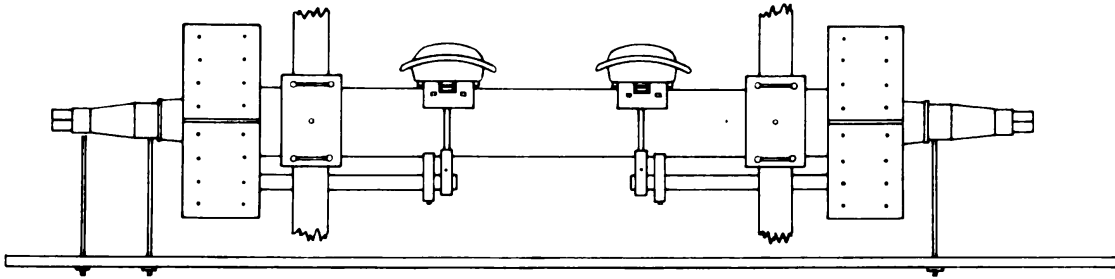

Figure 16—Checking Front Axle for Bend
6. Hold the single-pronged end of the gauge firmly against the inner bearing surface at one end of the axle, and adjust the double prongs on the other end of the gauge until they contact the inner and outer bearing surface. (See figure 16.)